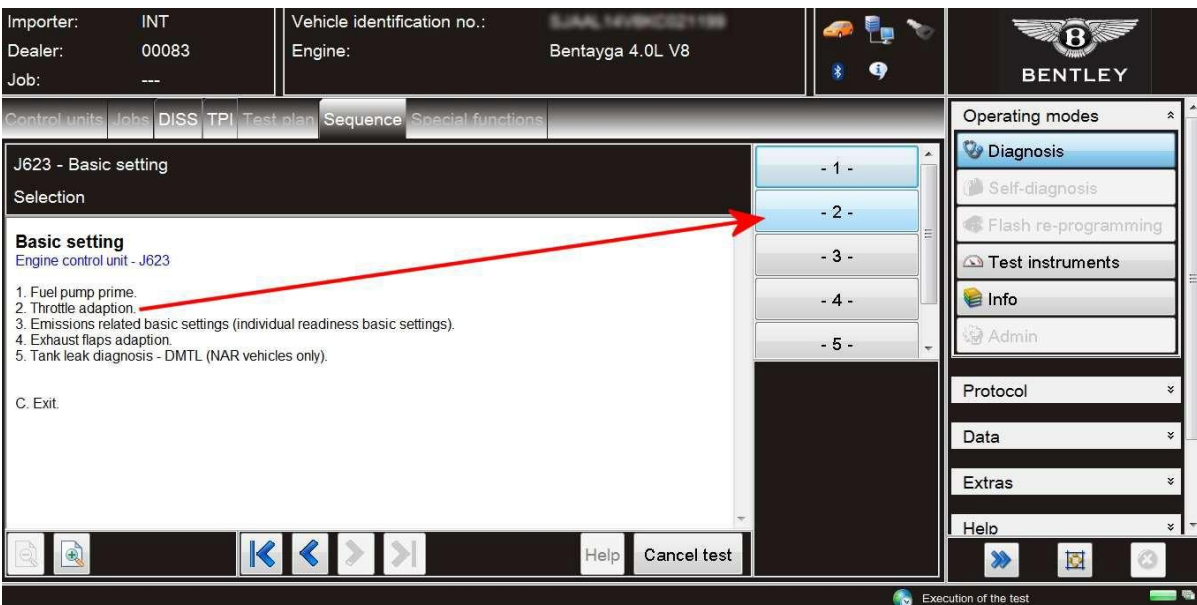

Figure 8
- The options shown in Figure 8 will be shown – Select option -2- Throttle Adaption